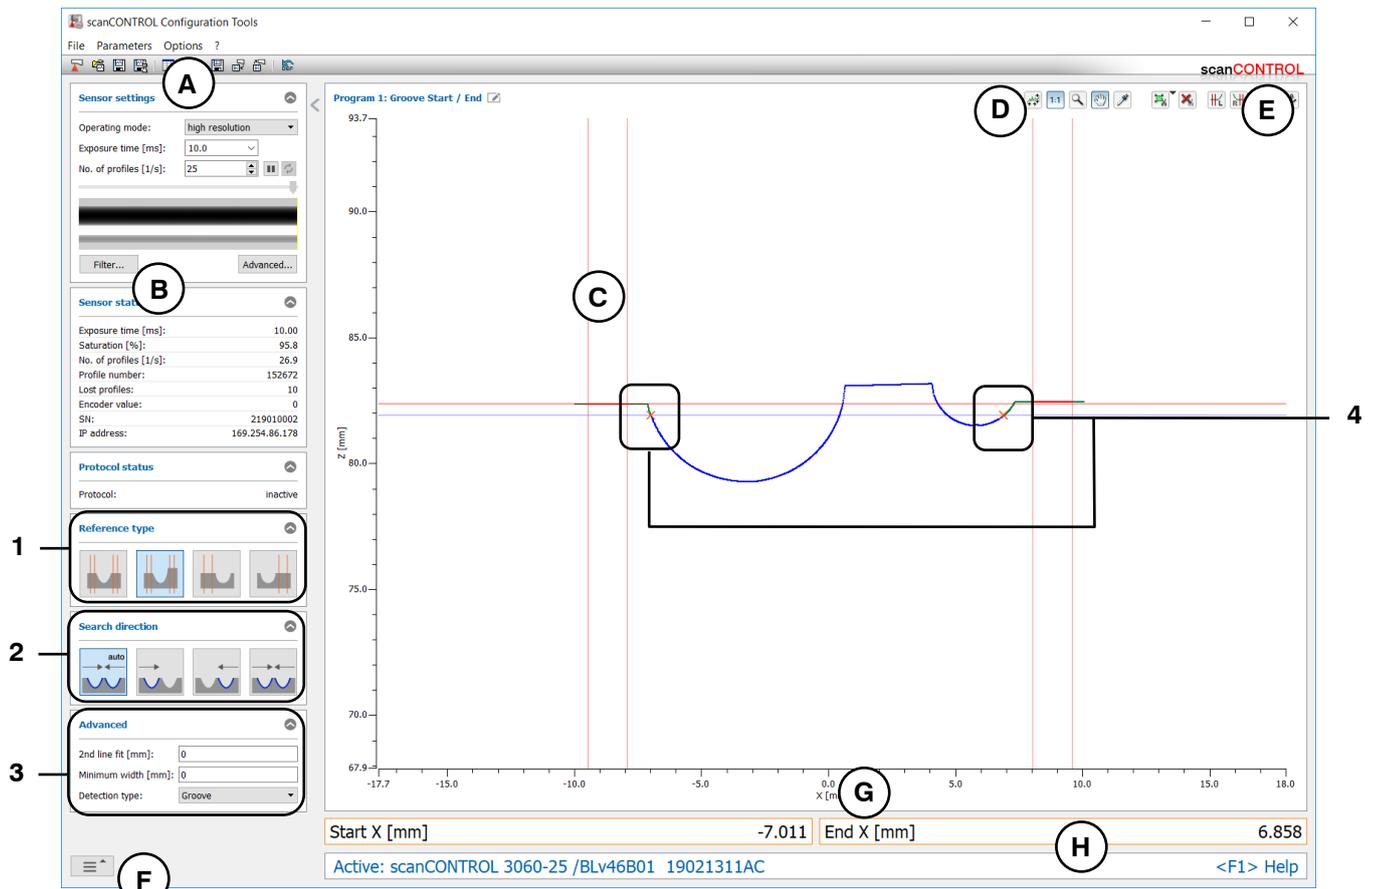

Fig. 4.32: "Groove Start/End" measuring program
- Define the type of deepening (see Fig. 4.32 and Chapter 3.13.1):